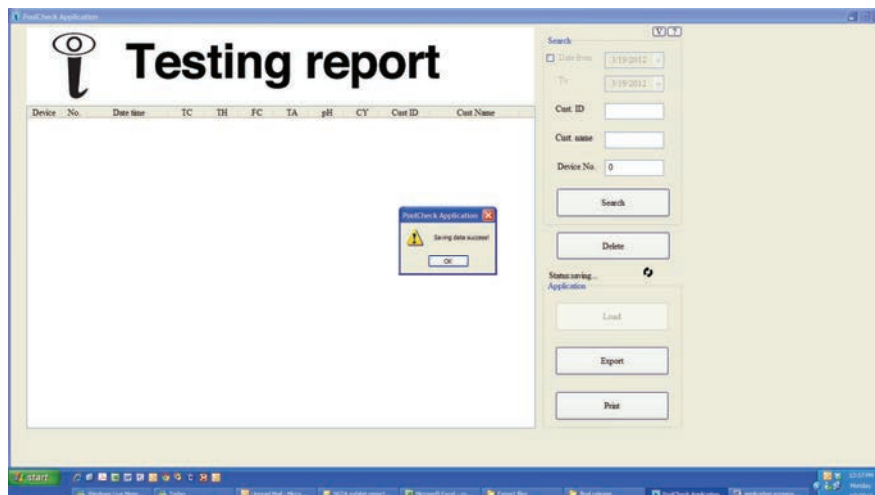

Figure 5—“Saving data success!”
5. A “Saving data success!” dialog box will appear. Click OK to save the data (Fig 5).